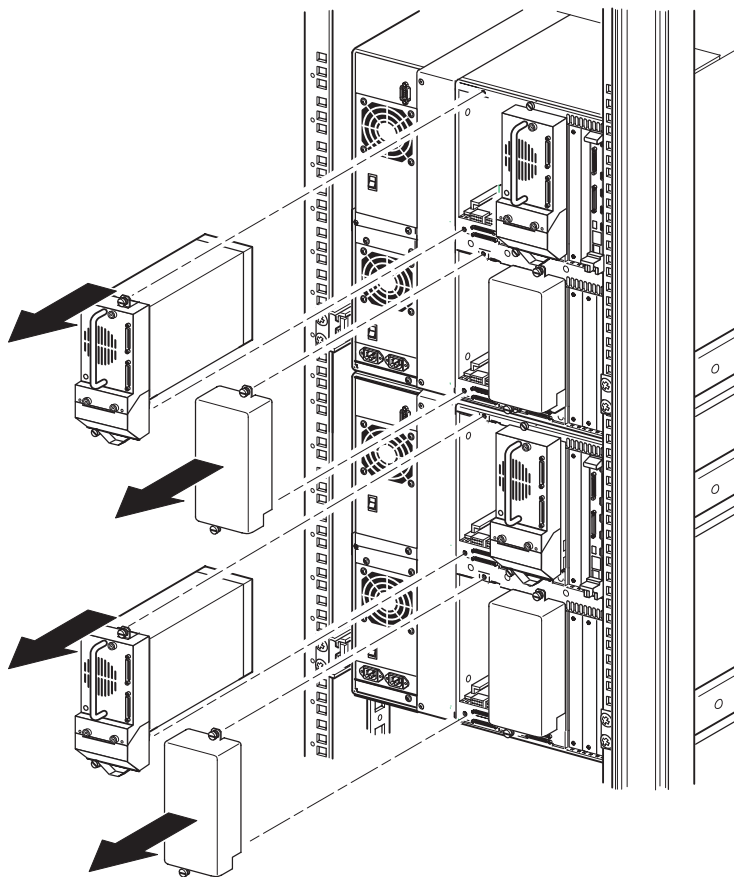

Figure 11 Accessing drive bays 1 and 3 (10U models)
2. Remove the blank panels or drive shoe assembly 1 and 3 from the bays adjacent to the PTM cover plate openings of each library (see Figure 11 on page 22).